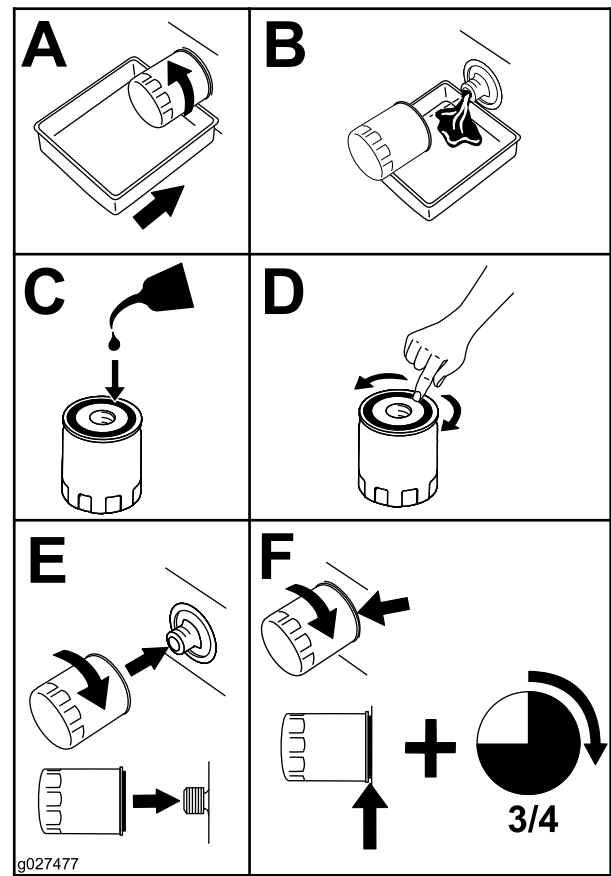

Figure 55
- Change the engine oil filter (Figure 55).